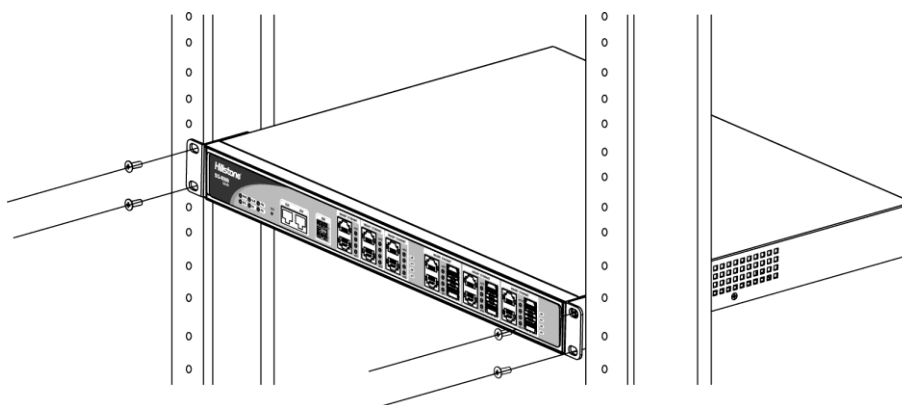

Figure 3-3: Installing the Appliance in a Rack (1U Chassis as example)
Step 2: Take out screws from the accessory box and fasten the rack-mounting ears of the chassis in the rack with the screws. Keep the center of the rack-mounting ear and the center of the rack hole horizontally even, as shown in Figure 3-3.